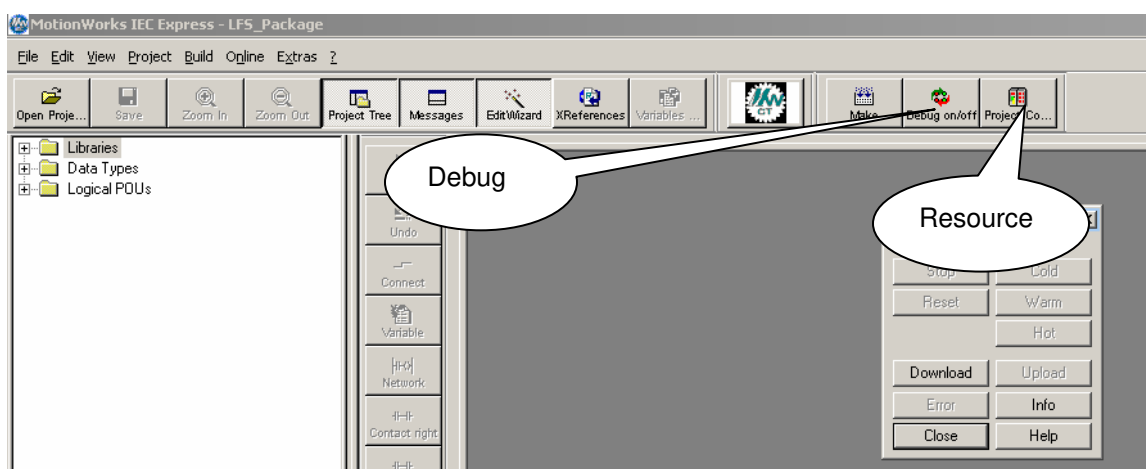

Figure 3: Download and debug
- V. Download the project to the controller through the resource icon (Fig 3)
- VI. Set in Debug mode(Fig 3)